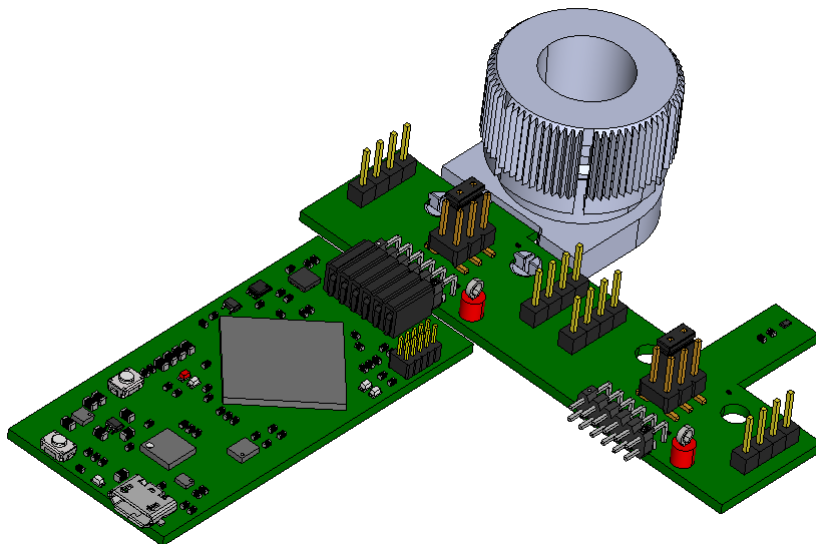

Figure 3-12. Rotate & Push Module on EVM
- b. Attach the Rotate & Push module to the EVM (see Figure 3-12). For more details on how to use these modules, see Section 3.2.2.
1. Attach the Rotate & Push Module to the EVM (see Figure 3-12 for an example on how this module is connected to the A1 part of the EVM).